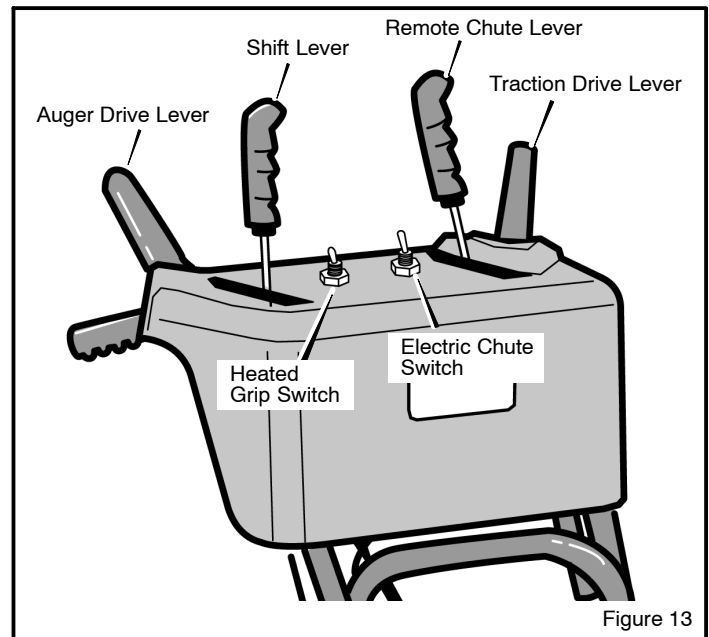

Figure 13
1. To stop throwing snow, release the **auger drive lever**. See Figure 13.
1. Push down the auger driver lever (**right hand**). See Figure 13.
When the temperature falls below 32 degrees, use the heated grips to keep your hands warm. Move the **heated grip switch** to the ON position (see Figure 13). It will take a couple of minutes for the grips to become warm. Because heated grips can become very warm, we recommend that you wear gloves. If you notice that the grips are too warm, turn off heated grips.